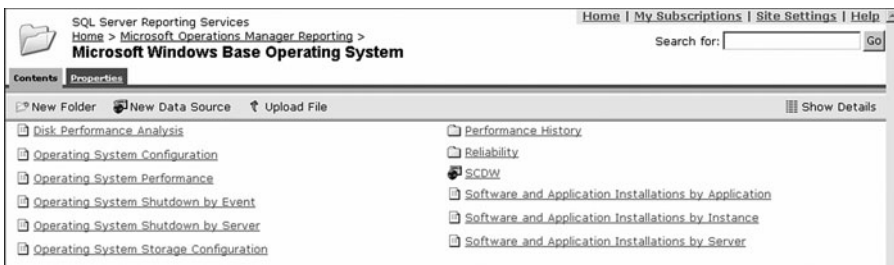

FIGURE 21.9 Microsoft Windows Base Operating System reports.
3. Click on the Microsoft Windows Base Operating System folder. The Contents tab now displays a list of available reports within the Microsoft Windows Base Operating System folder. Your screen should look similar to the one displayed in Figure 21.9.